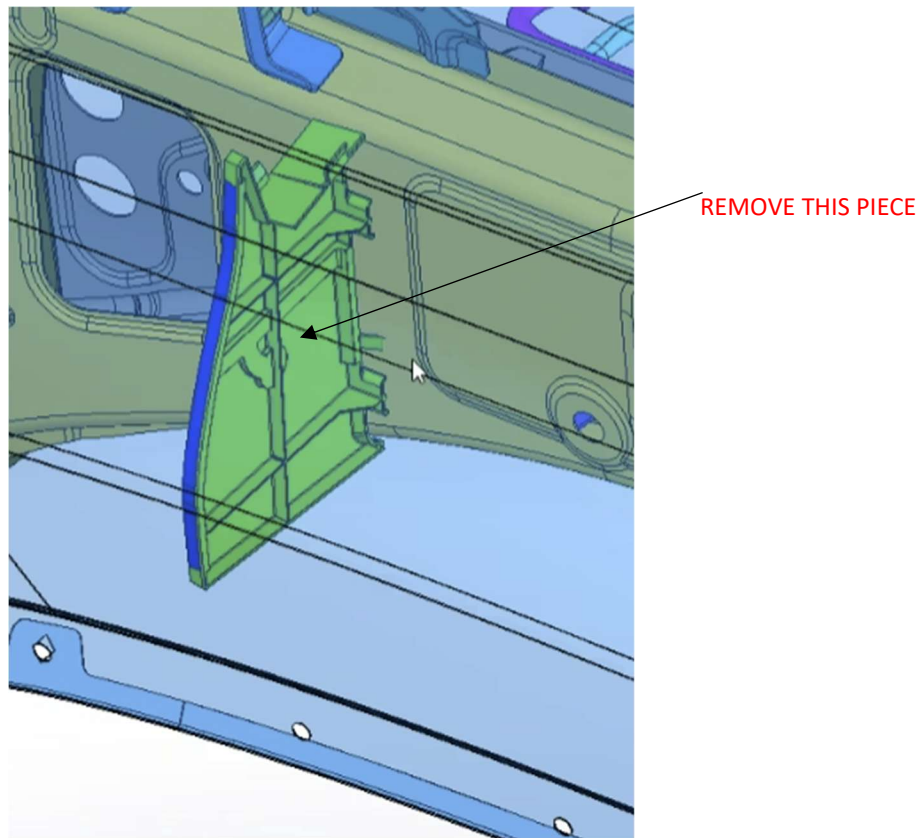

Figure 8
5. To install the lower connection tube, you will need to remove the stock fender reinforcement plastic. You can use a small hand saw or wire to cut away the molded clips. The foam adhesive can be cut using a fishing wire or string. Careful when removing to not damage the fender. See (fig. 8)